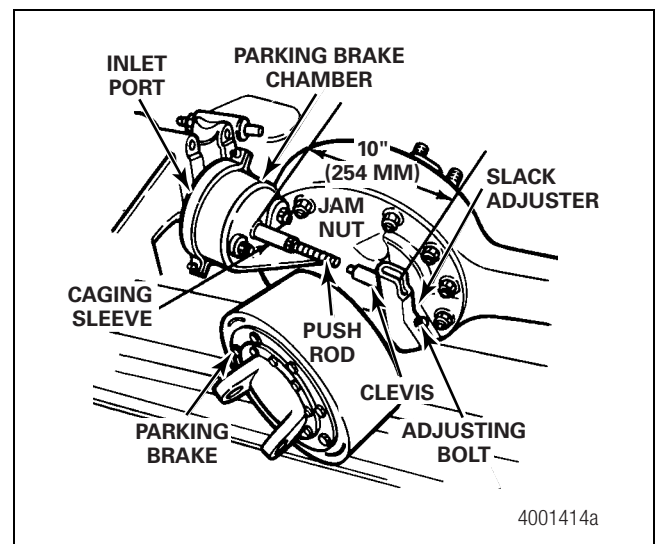

Figure 5.31
5. Rotate the push rod clevis until the center of the clevis pin hole is 10-inches (254 mm) from the chamber non-pressure plate. Tighten the jam nut. Figure 5.31.